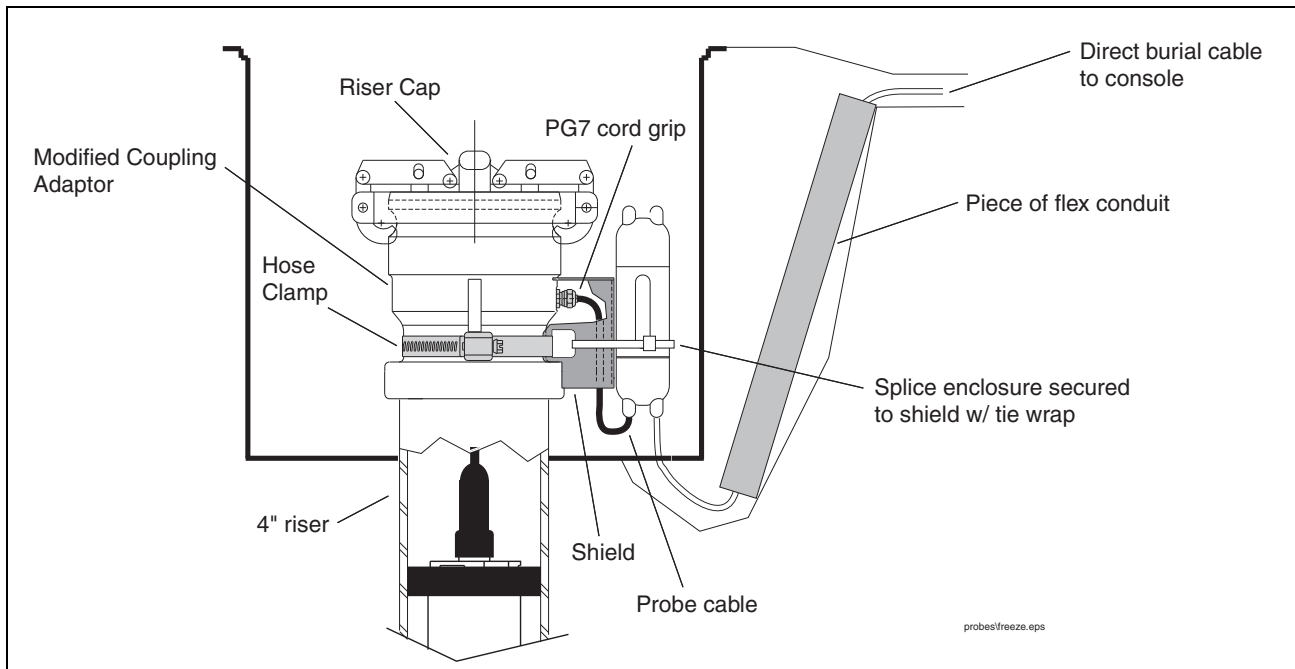

Figure 24. Mag Probe Vapor Extractor Riser Installation - w/ Coupling Adaptor
12. Position the Shield-Fitting over the PG7 cord grip and secure with the hose clamp (see Figure 24 on page 30).